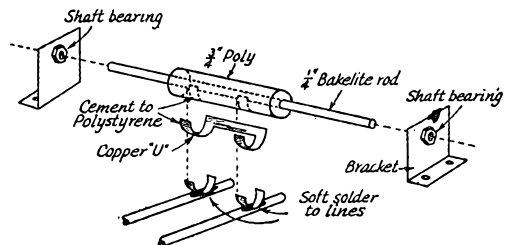

Fig. 2—Constructional and assembly details of the tuning capacitor.
- C_1 — See text and Fig. 2.
The tuning condenser is of the split-stator type with the rotor floating. The stator plates consist of two strips of copper, $\frac{3}{4}$ inch wide by 1 inch long, formed in two arcs and soldered to the tuning rods (see Fig. 2). The rotor uses a piece of $\frac{3}{4}$ -inch diameter polystyrene rod through which is drilled a $\frac{1}{4}$ -inch diameter hole for a bakelite or polystyrene shaft. If desired, the solid polystyrene can be replaced by a $\frac{3}{4}$ -inch diameter coil form by cementing a disc of polystyrene to the open end of the coil form.